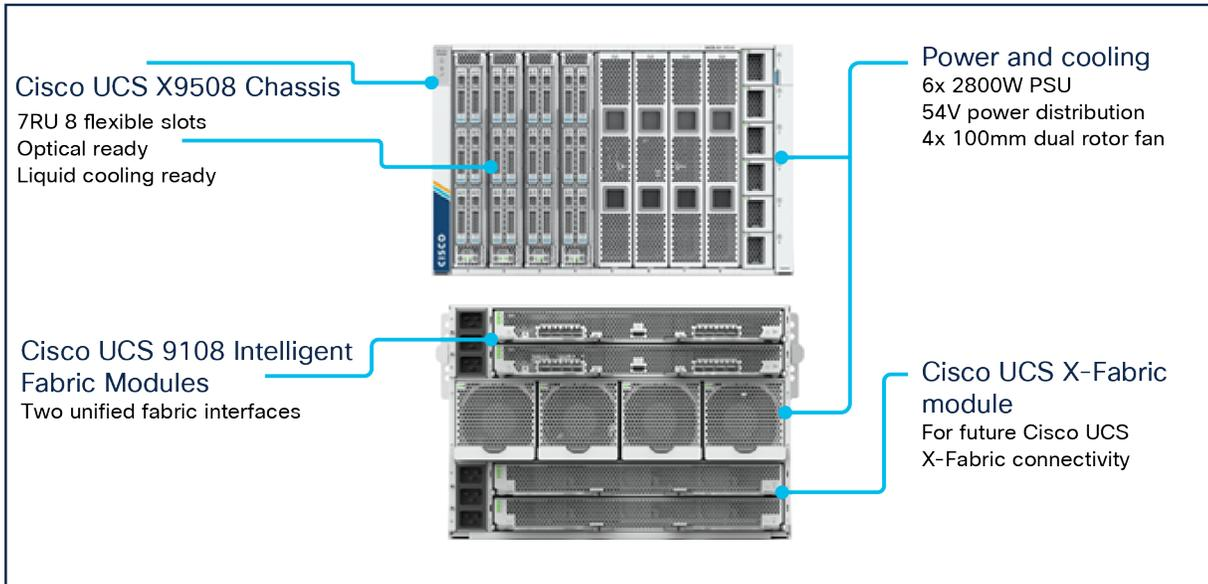

Figure 2.
- **Simplify with an adaptable system designed for modern applications:** Today's cloud-native, hybrid applications are inherently unpredictable. They are deployed and redeployed as part of an iterative DevOps practice. Requirements change often, and you need a system that doesn't lock you into one set of resources when you find that you need another. For hybrid applications and a range of traditional data center applications (refer to the Figure 2), you can consolidate onto a single platform that combines the density and efficiency of blade servers with the expandability of rack servers. The result: better performance, automation, and efficiency.